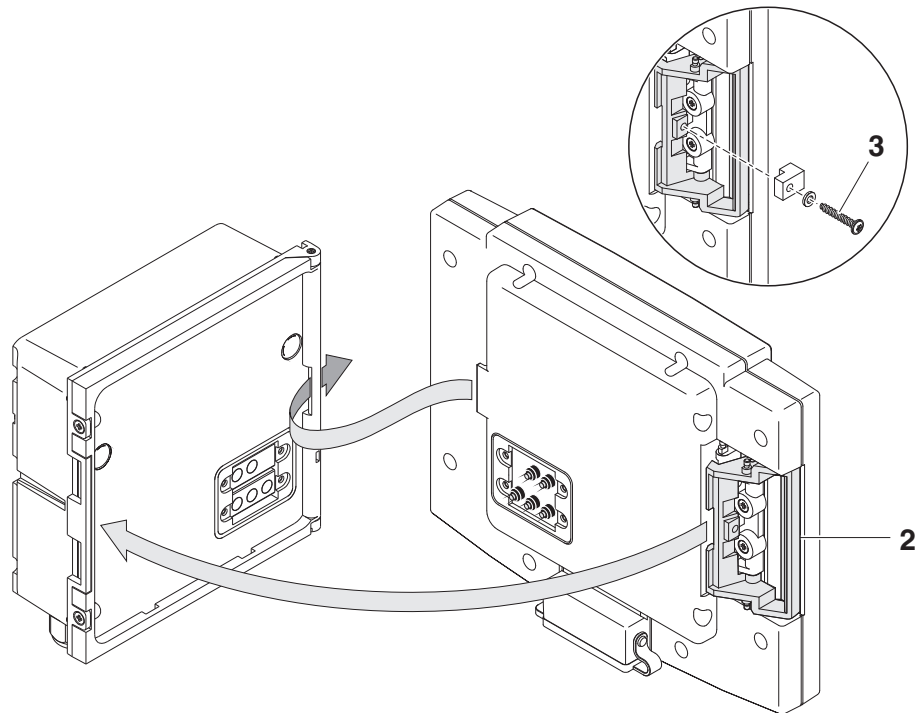

Fig. 3-19 Docking the terminal component
| 2 | Attach the terminal component to the module lid. To do so, insert the flap on the back of the terminal into the slot on the door hinge of the MIQ module. Then, pull back the interlocking lever (pos. 2 in Fig. 3-19), place the terminal completely on the MIQ module and release the interlocking lever. |
| 3 | To protect any inadvertent removal of the terminal component, the interlocking lever can be fixed in place with the screw (pos. 3 in Fig. 3-19). |